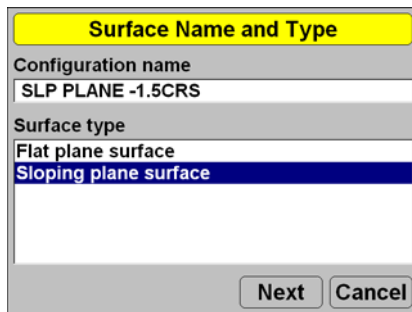

Figure 3-7. Surface Name and Type Dialog Box
3. Enter and select the following information, then press **Next** (Figure 3-7):